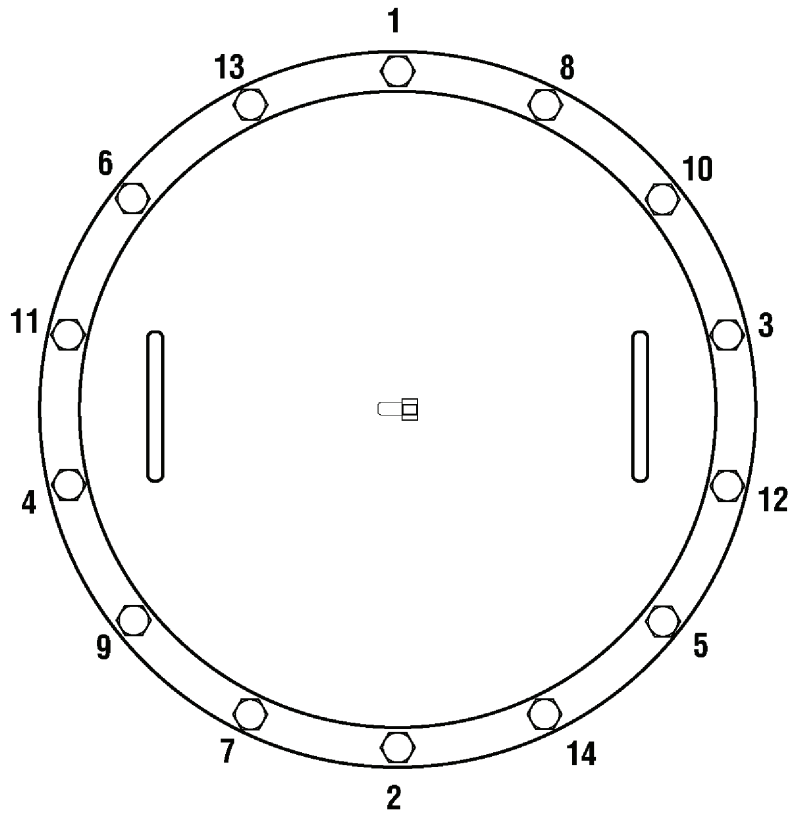

Figure 3. Lid Bolt Torqueing Pattern
Coalescer, 100-GPM (Item 5, Figure 3, WP 0019 00)
4. Lubricate o-ring (8) with diesel/jet fuel and install on vessel (7).
5. Install head assembly (1) and secure with fourteen lid bolts (10), flat washers (9) and (6), new lockwashers (5), and nuts (4).
6. Torque lid bolts (10) to 150 ft-lbs. in a cross pattern according to Figure 3.
Sight gauge, 100-GPM (Item 31, Figure 3,
Sight gauge, 100-GPM (Item 9, Figure 3, WP0019)